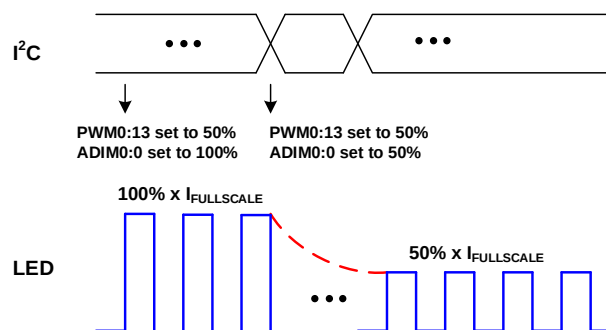

Figure 9: PWM Dimming via I²C Interface
4. PWM Dimming Mode via PWM Register: This mode is activated if MOD2:0 = 011. In this mode, the LED current is chopped as a PWM waveform. The PWM frequency is set by the internal FPWM0:3 bits, and the duty cycle is set by the PWM0:13 bits. The current amplitude can be changed by the internal ADIM9:0 10-bit value (see Figure 9).